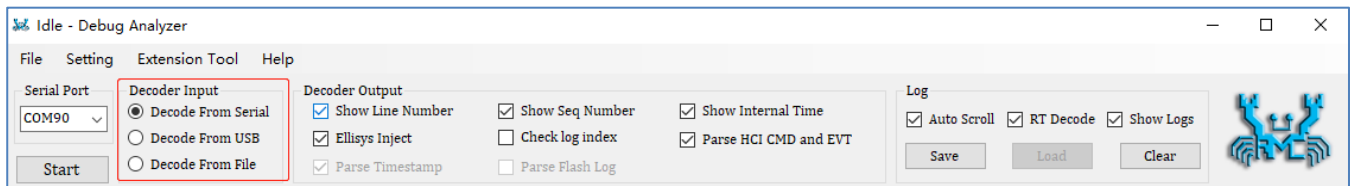

Figure 4-1 Log Decoding Type
- For example, use COM7_2023-03-31_15-24-08.bin in Figure 3-1, select Decode from File in Decode Input, refer to Figure 4-1 and Table 4-1.